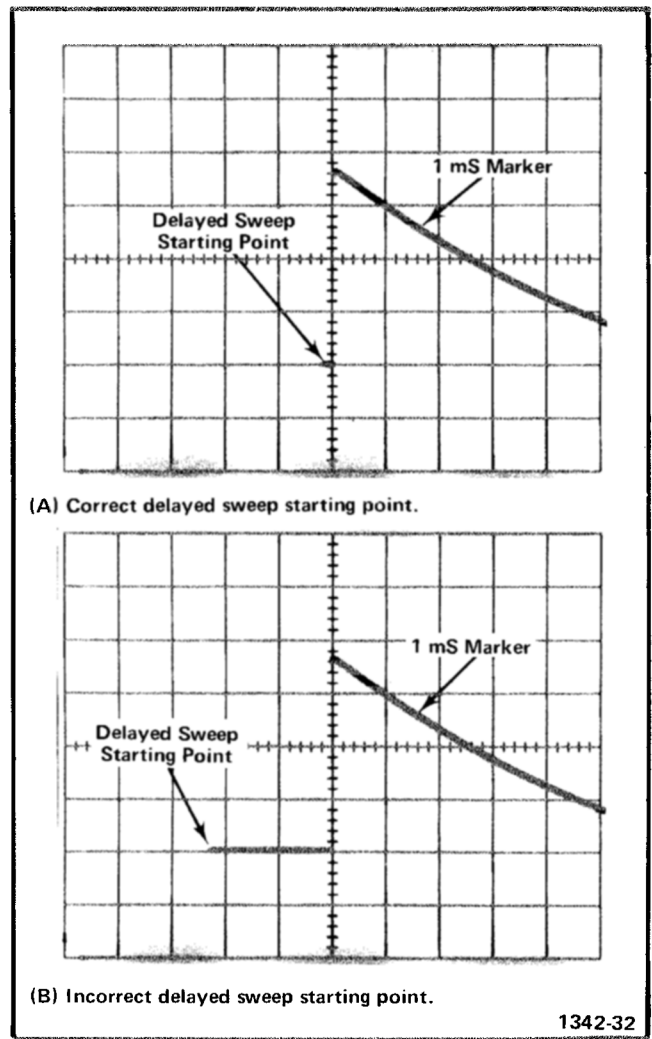

Fig. 4-6. Typical CRT display for adjustment of Dly'd Sweep Start and Dly'd Sweep Stop.
h. ADJUST—Observe the time-marker and adjust R576 to start the delayed sweep at the bottom of marker (see Fig. 4-6). Use the POSITION control to position the display to the center vertical graticule line. If the marker is not displayed, repeat parts b through d, g, and h.
i. Rotate the DELAY TIME MULT to 9.00. Observe the time-marker and adjust R572 to start the delayed sweep at the bottom of marker (see Fig. 4-6). Use the POSITION control to position the display to the center vertical graticule line. If the marker is not displayed, repeat parts b, e, f, g, and i.